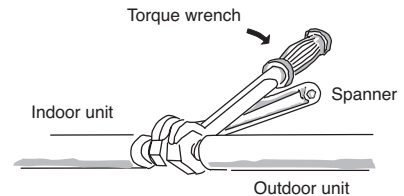

**Fig. 14**
- a) Temporary connection: Screw in 3 – 5 turns by hand. (Fig. 14)